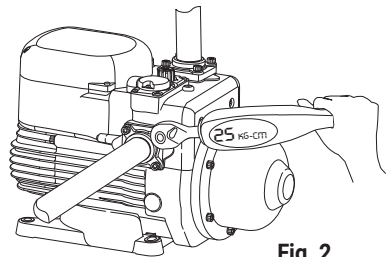

Fig. 2
3.5 Connect the suction pipe to the side and discharge the pipe on the top. (See Fig. 2)